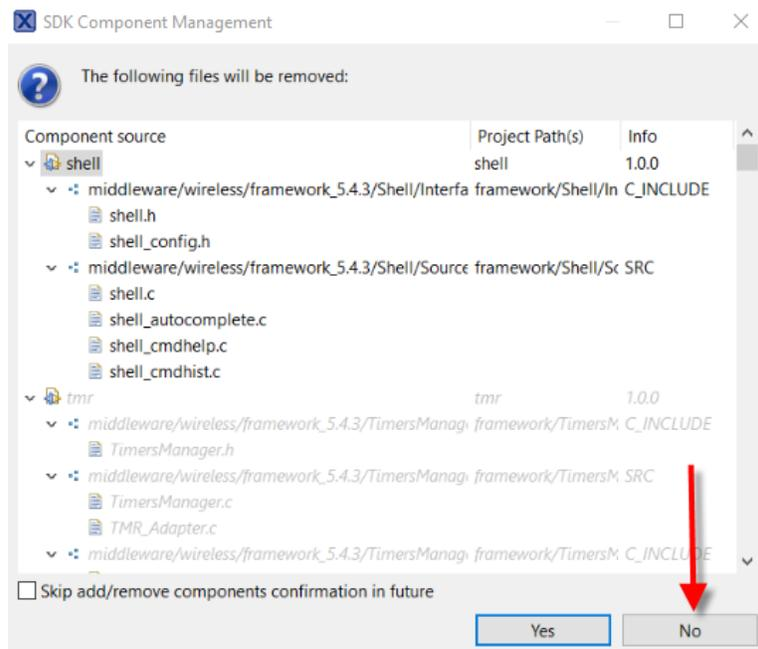

Figure 12. SDK Component Management window 2
4. A second window will appear to confirm some file to be removed, click “No” or your project will break Figure 12.